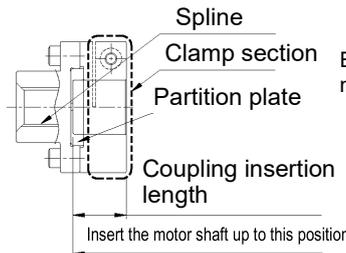

Fig. 5-19
- If the motor shaft is not in contact with the partition plate, it could damage the reduction gear. (Refer to Fig. 5-19)